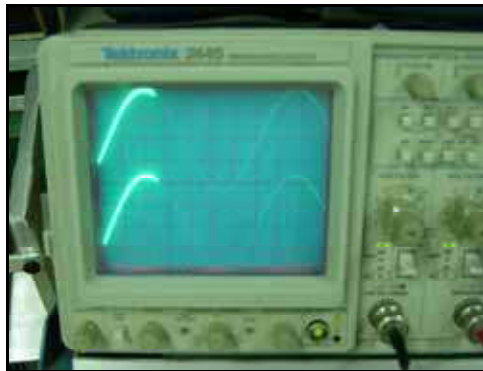

Figure 4.3 Unity gain input and output signals
- 9) Now turn on the source let it warm up for approximately 10 minutes and set it for 5 V(peak) at 10 Hz. The waveforms on the oscilloscope should be exactly the same, see Figure 4.3.